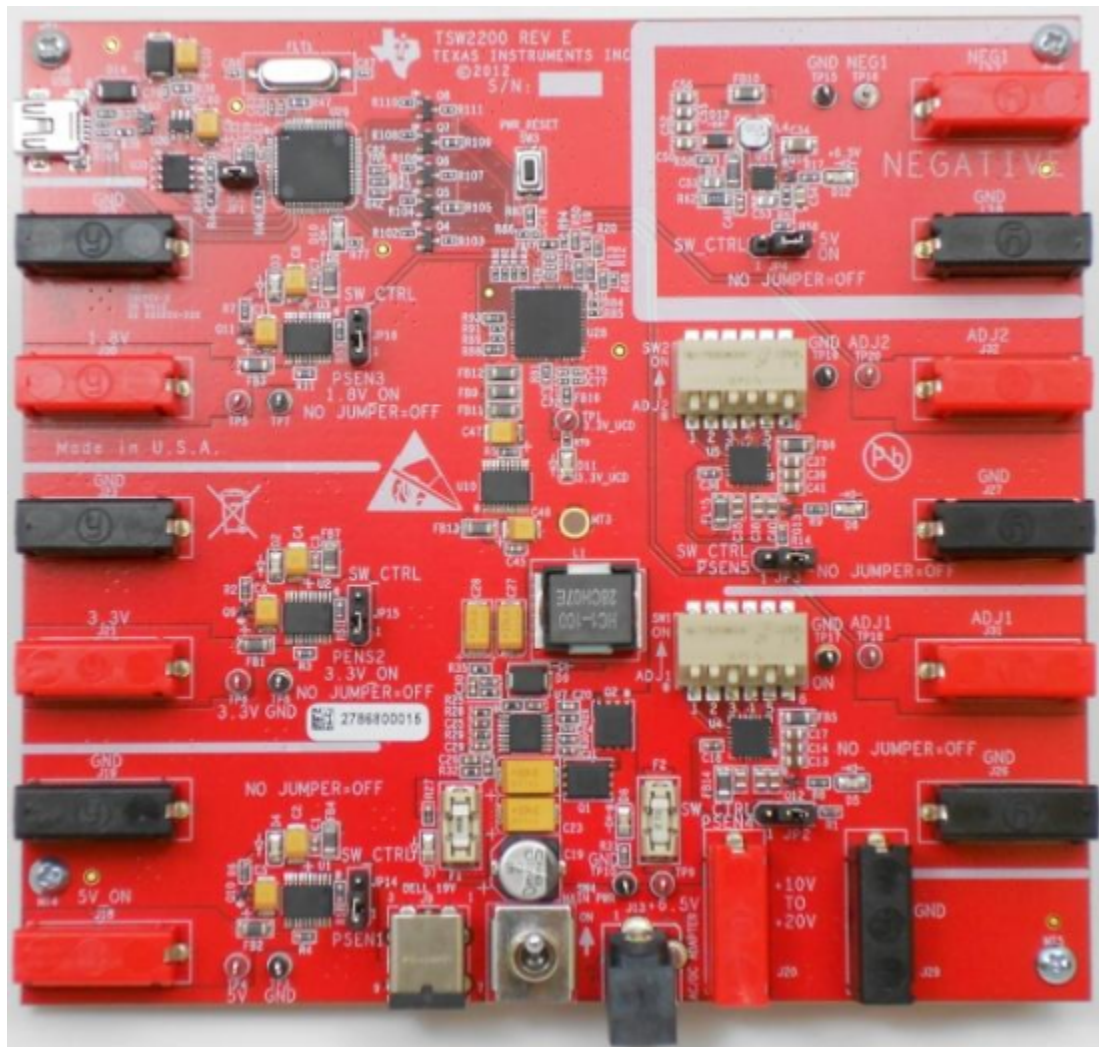

Figure 1. TSW2200EVM Evaluation Module
The TSW2200EVM (Figure 1) provides users with a multiple-output power supply board using a switching regulator and low-dropout (LDO) regulators. With an onboard TUSB3210 integrated circuit (IC) and UCD90120A sequencer, users can configure the EVM to operate in either manual or sequencer mode. Manual operation allows each output to be turned on or off with a jumper setting, whereas the sequencer operation allows precise configurability of turnon time using the Fusion GUI software.